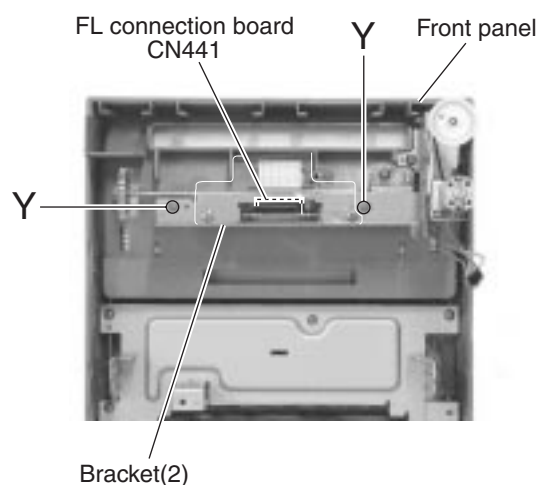

Fig.39
■ Removing the FL connection board (See Fig.39~41)
1. Remove the two screws **Y** and the screw **Z** attaching the bracket (2) on the back of the front panel.
■ Removing the Drive motor assembly (See Fig.39, 40,42)